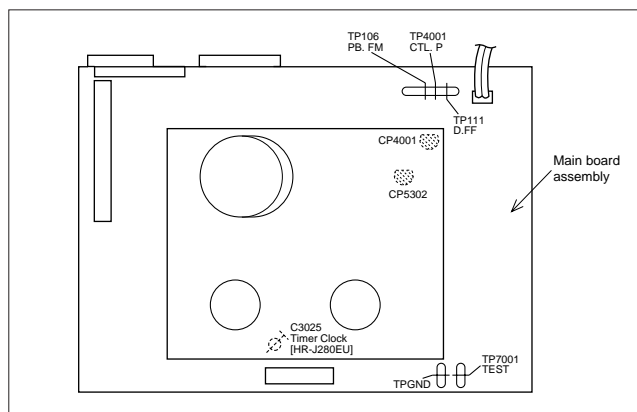

Fig. 1-4-1a
- (1) Remove the Top cover, Bracket, Front panel assembly and Mini front board assembly. (See 1.3 Disassembly/assembly method.)
- (2) Lower the cassette holder to prepare for the removal of the Mechanism assembly screws. (Refer to the "Procedures for lowering the Cassette holder assembly" of 1.3 Disassembly/assembly method.)
- (3) Remove the combined Mechanism and Main board assemblies.
- (4) Connect the wires and connectors of the major parts that have been removed in step (1). (Refer to Fig. 1-4-1a.)
- (5) Place the combined Mechanism and Main board assemblies upside down.
- (6) Insert the power cord plug into the power outlet and then proceed with the diagnostics and servicing of the board assembly.